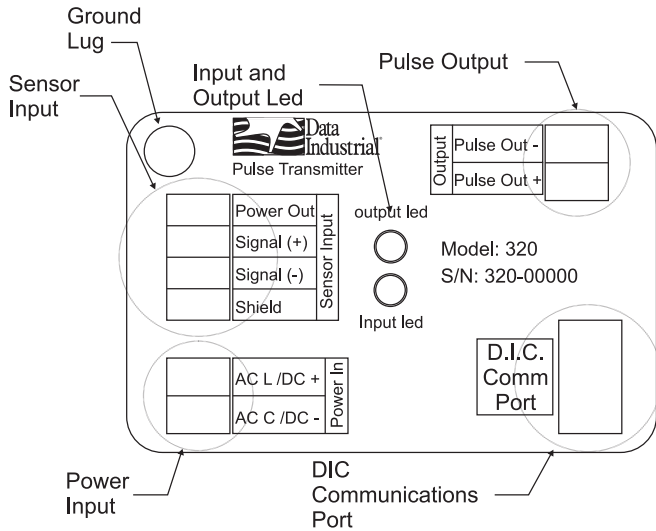

Figure 1: Model 320
1. Refer to Figure 1 for terminal connections.